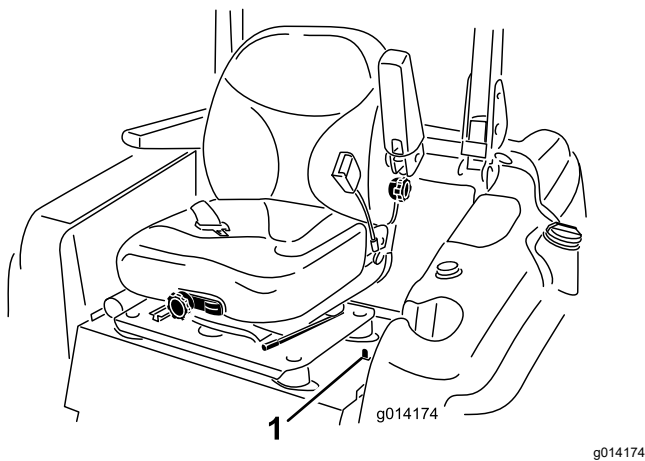

Figure 16
1. Move the seat latch, located on the left side of the seat, rearward to unlatch the seat and pull forward on the top of the seat (Figure 16).